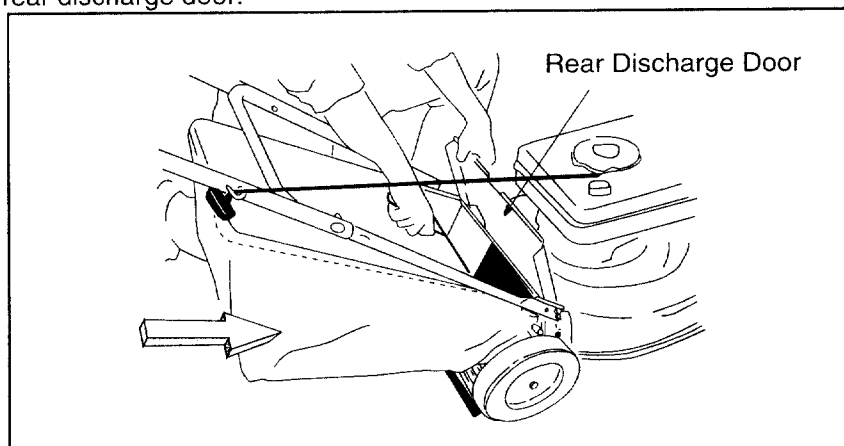

FIGURE 12
- Place the hooks of the grasscatcher into the slots in the handle bracket assemblies on both sides. See Figure 12.
- Release the rear discharge door. See Figure 12.